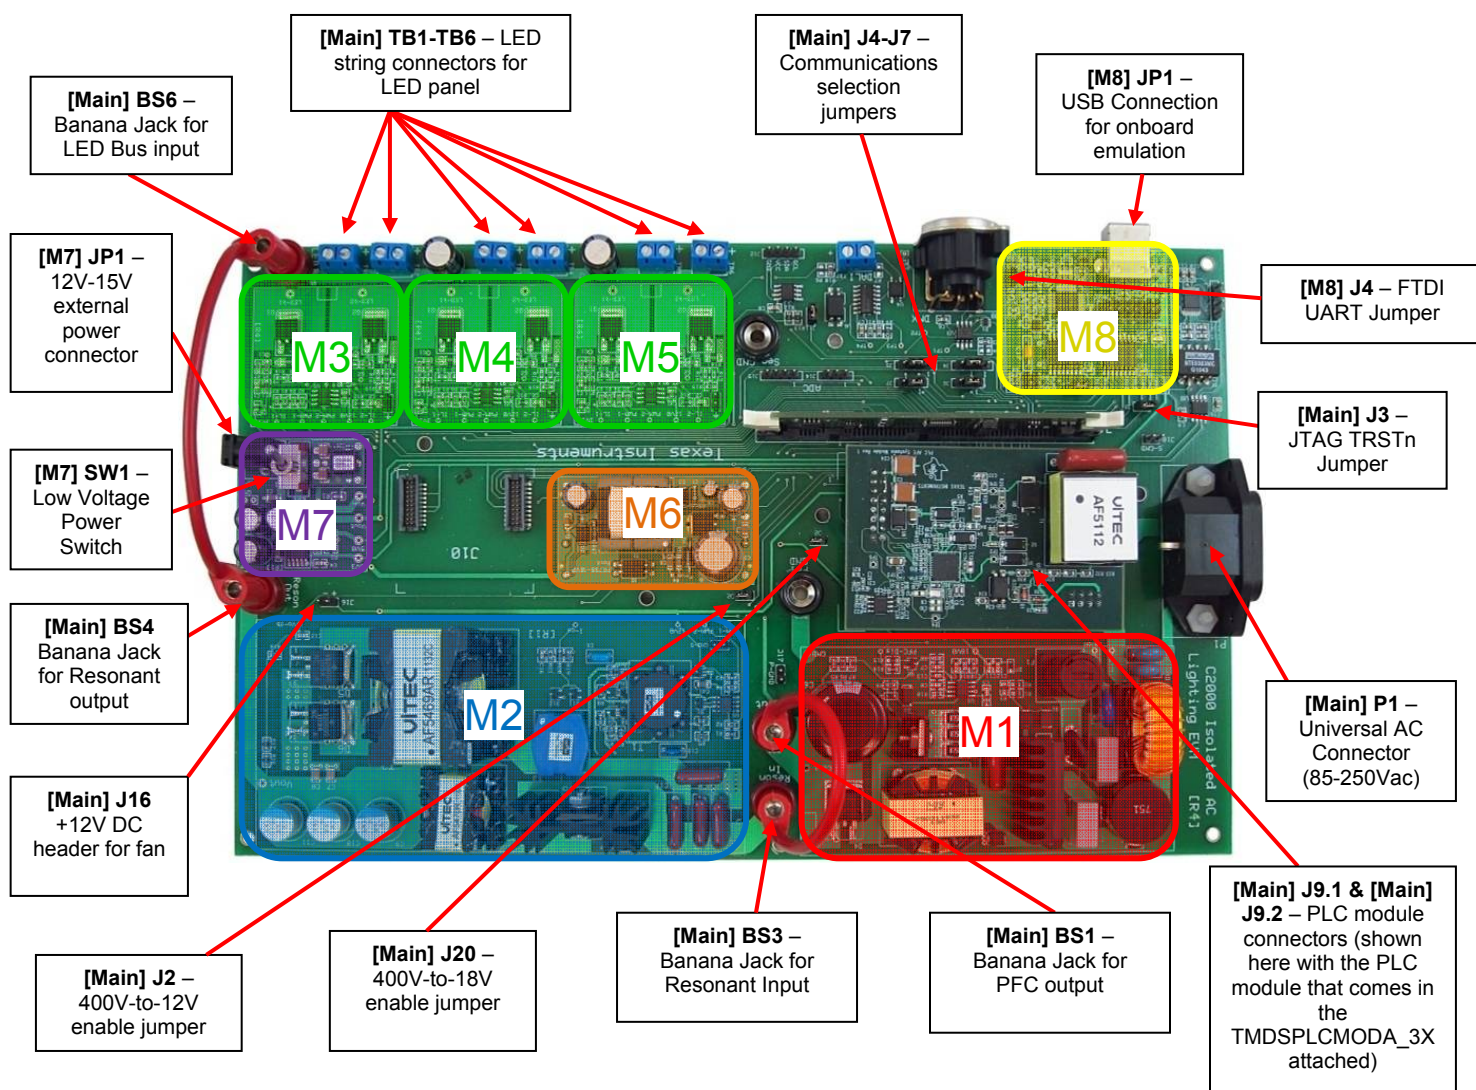

Figure 3: TMDSIACLEDCKOMKIT Key Features
Listed below in Figure 3 are some of the major connectors and features that will be used/changed on the Power Line Comms dock board (TMDSPCKIT-V3 board).
- 2) Move or place the following jumper on the TMDSPCKIT-V3 board (refer to Figure 3):